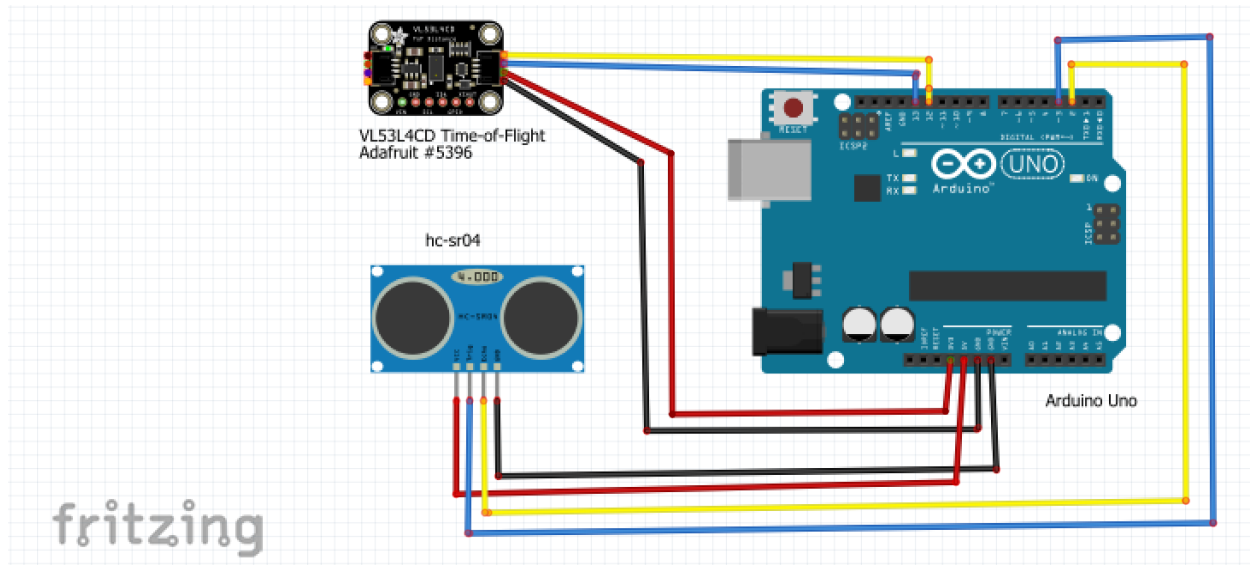

Fig 2. Hardware Implementation of the project with connections
3. **Connect** as shown in Fig 2.